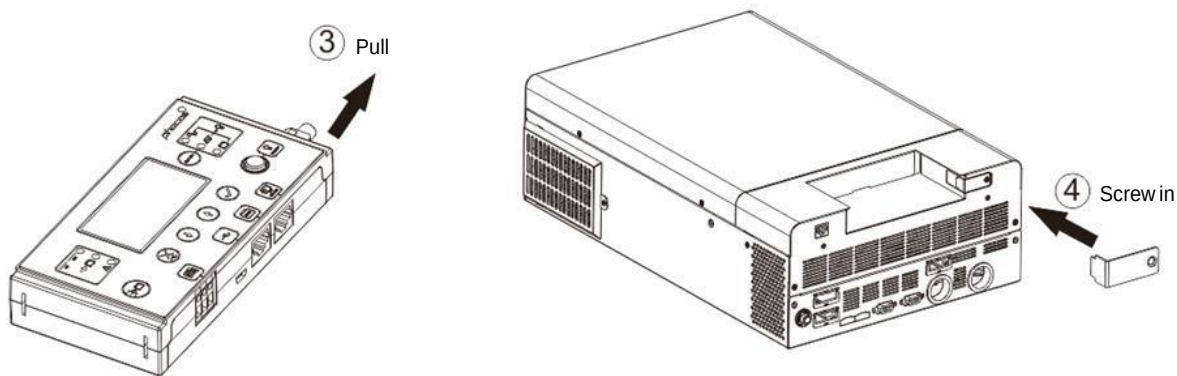

Fig. 11: Remote display removal
1. Remove the screw holding the bracket on the bottom of the display module (**Fig. 11** ⑦ ①) and push down the display unit from the case slightly while removing the metal bracket.
2. Keep pushing the display module down, taking care not to damage the connected cable (**Fig. 11** ⑦ ②).
3. Remove the cable connected to the display module (**Fig. 11** ⑦ ③).
4. Screw the bracket removed in **Fig. 11** ⑦ ① back in place (**Fig. 11** ⑦ ④).